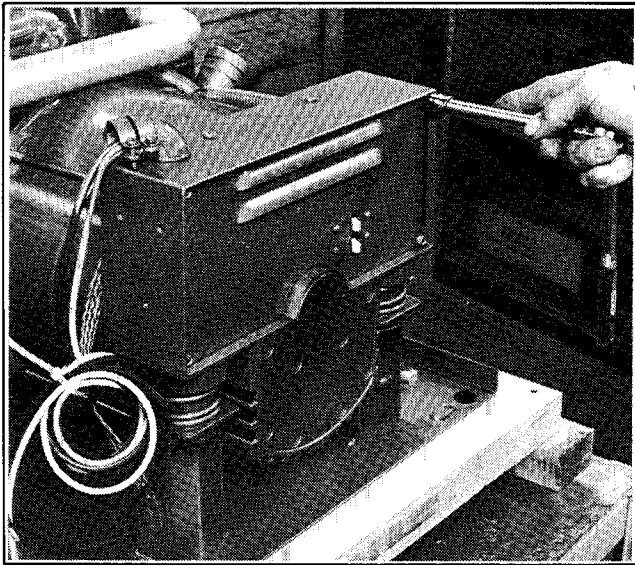
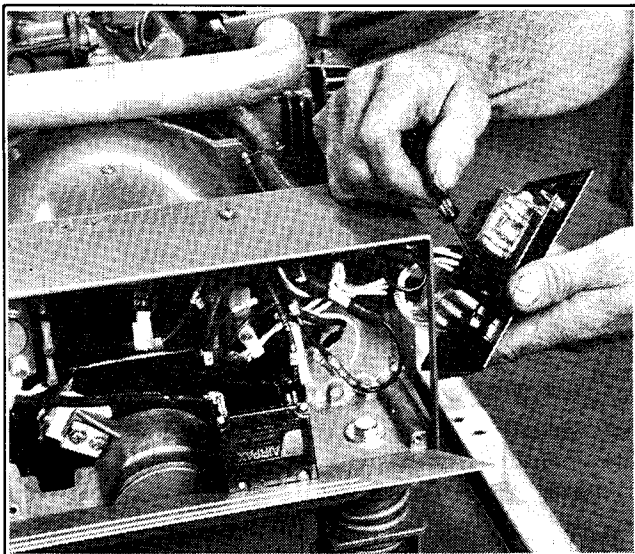
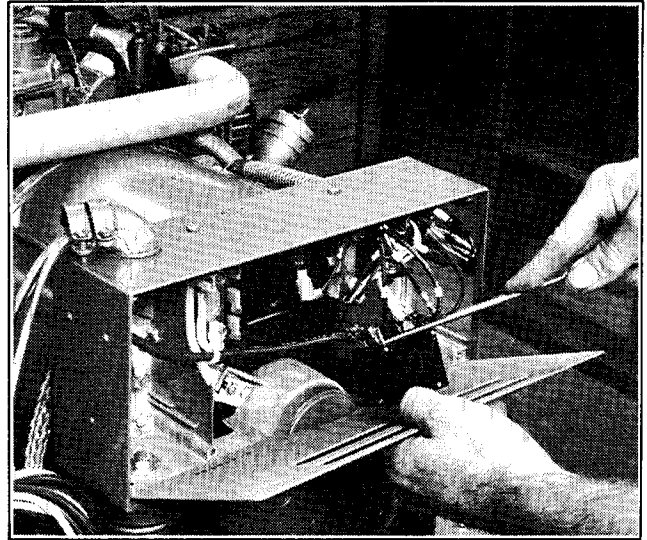

Figure 8-1. Removing End Bracket Panel
Figure 8-2. Removing Controller Harness Plugs
Figure 8-3. Removing Circuit Breaker Leads
2. Remove four screws to release end bracket panel, see Figure 8-1. With the end bracket panel removed, the voltage regulator is now accessible. To remove controller panel, remove two screws and unplug P1, P2, and P3, see Figure 8-2. Remove circuit breaker leads (Figure 8-3) and remove end bracket panel.